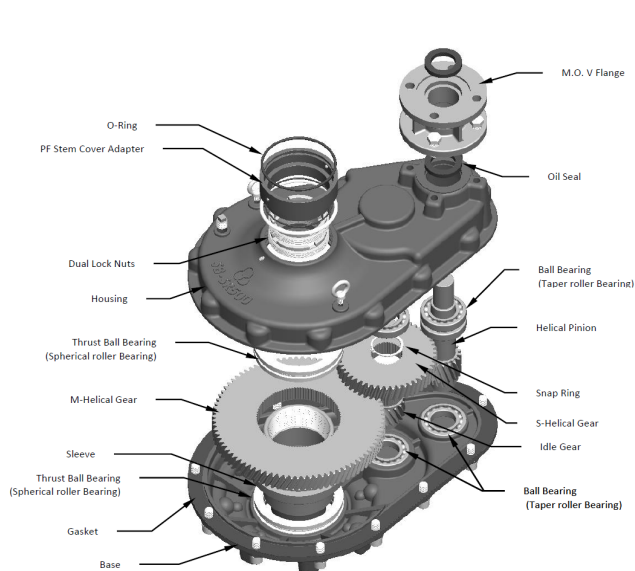

Figure 1: SR Exploded View
WARNING: Do not manually operate the SR(H) gearbox (see figures 1 and 2) with devices other than the installed handwheel or wrench nut. Using additive force devices (cheater bars, wheel wrenches, pipe wrenches, or other devices of this nature) on the gearbox handwheel, wrench or wrench nut may cause serious personal injury and/or damage to the gearbox or valve.